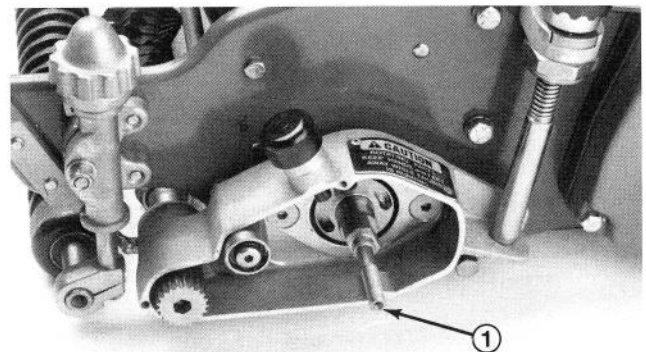

Figure 9
C. Remove the adapter from the clutch assembly and screw the adapter onto the left reel shaft extension (Fig. 9). Secure the reel from turning with a wood block and torque the clutch adapter to a minimum of 17 ft-lb.